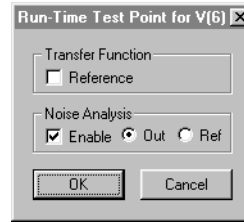
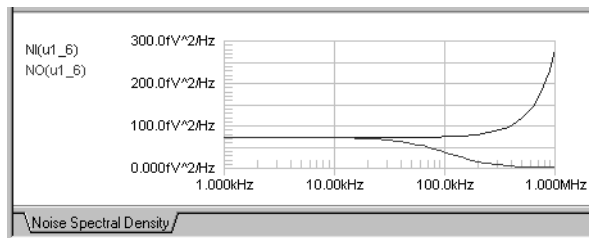

Figure 6.25. Use this dialog box to set up Run-Time Test Points for a Noise Analysis.
Figure 6.27. This Noise Analysis waveform shows noise at the output and the equivalent input noise at the specified source over a specified frequency range.
- 1 Select the output node by clicking the output node of the circuit with the **Probe Tool** to place a Run-Time Test Point. Double-click on it to display the dialog box shown in Figure 6.25. In the dialog box that appears, check the Noise Analysis **Enable** checkbox, and make sure **Out** is selected.
The waveform in Figure 6.27 was generated by simulating the Analog.ckt circuit using the values shown in Figures 6.25 and 6.26. See *Using the Analysis Window* earlier in this chapter for more information about manipulating the waveforms.